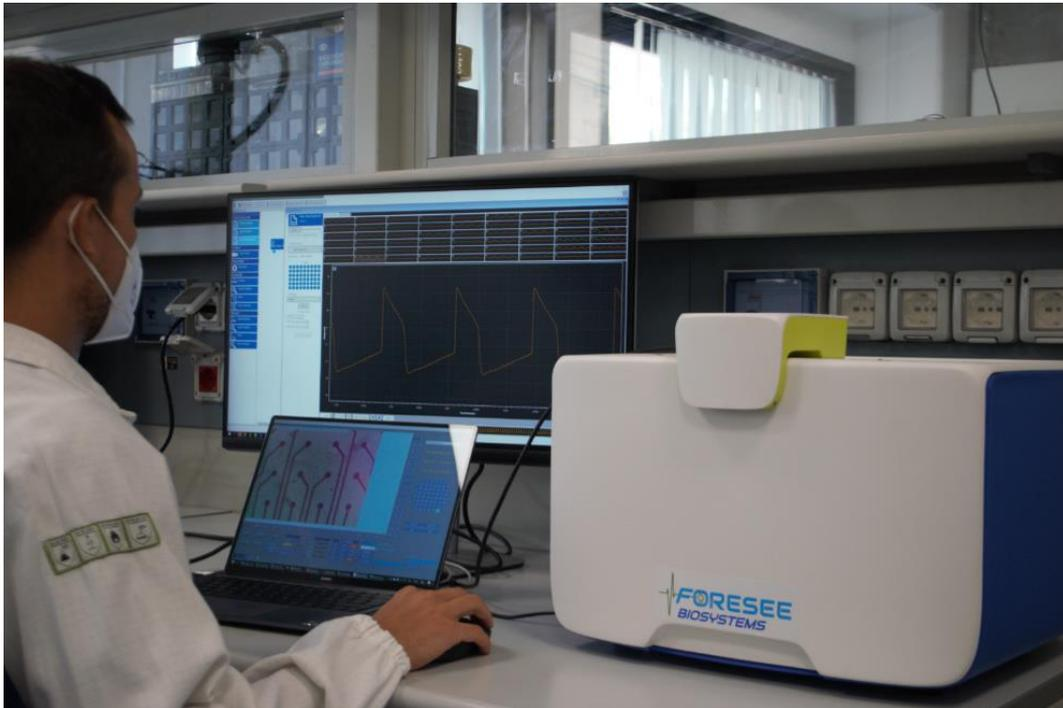

Figure 6: the user performs AP recordings exploiting IntraCell and FB_Alps.
16. Use the MCS interface to visualize AP recordings on each electrode selected for optoporation, as shown in Figure 6. Please refer to the manufacturer manual for more details.